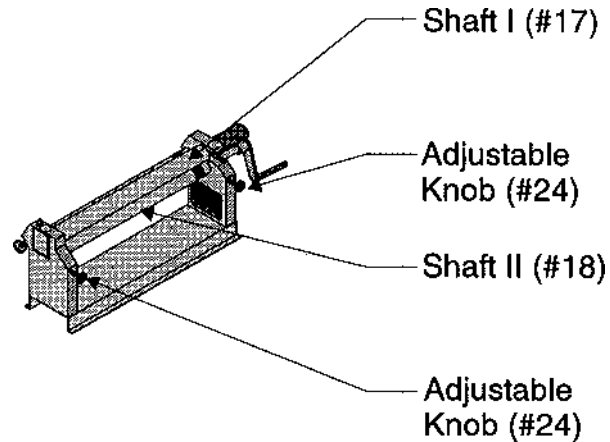

Figure 1 -- Adjusting the Material Gap
1. To increase the gap between SHAFT I (#17) and SHAFT II (#18) to allow for varying thickness of materials, screw out the ADJUSTMENT KNOB (#24). To decrease the gap, screw it in. Make sure to adjust both KNOBS an equal amount. See Figure 1.